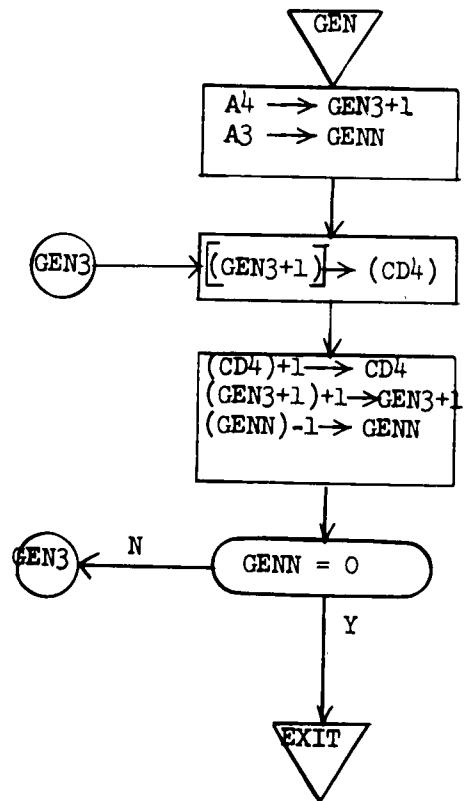

Figure 7.24 GEN
7.3.7 SETUP Subroutine (Figures 7.24 through 7.39)
7.3.7.1 GEN Subroutine (Figure 7.24)